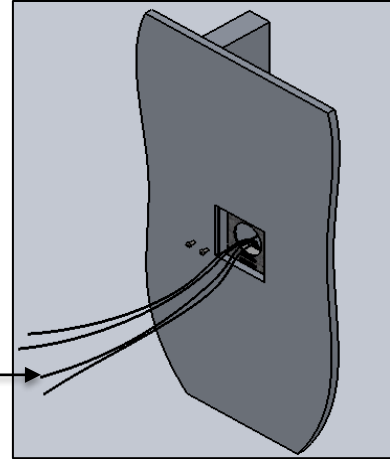

FIG. 15 DRIVER PLATE RE-ASSEMBLED
11. Reattach DRIVER PLATE with the screws provided as shown in FIG. 15.